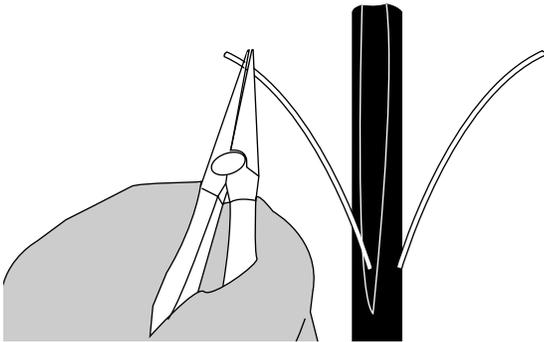

Figure 5
4.4 Using needle nose pliers, bend the steel rods away from the cable (Figure 5). TAKE CARE TO AVOID ACCIDENTAL INJURY FROM CONTACT WITH THE ENDS OF THE RODS.